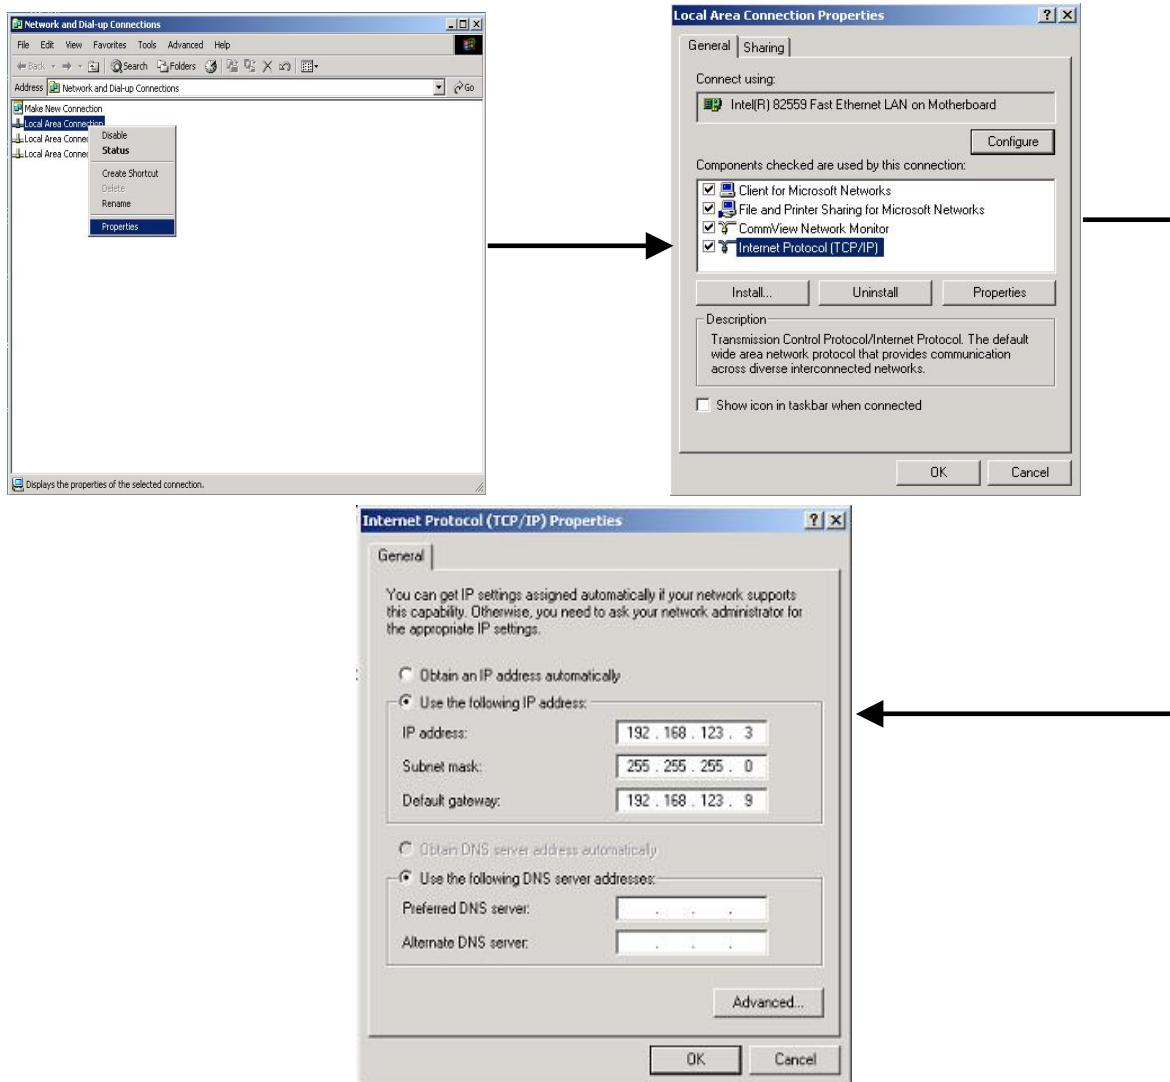

Figure 5
- e) Edit the TCP/IP properties page as shown below. Refer to Figure 5.
- d) Select "Internet Protocol (TCP/IP)" and click on Properties (Figure 5).
- e) Make sure "Obtain an IP address automatically" is selected (Figure 5).